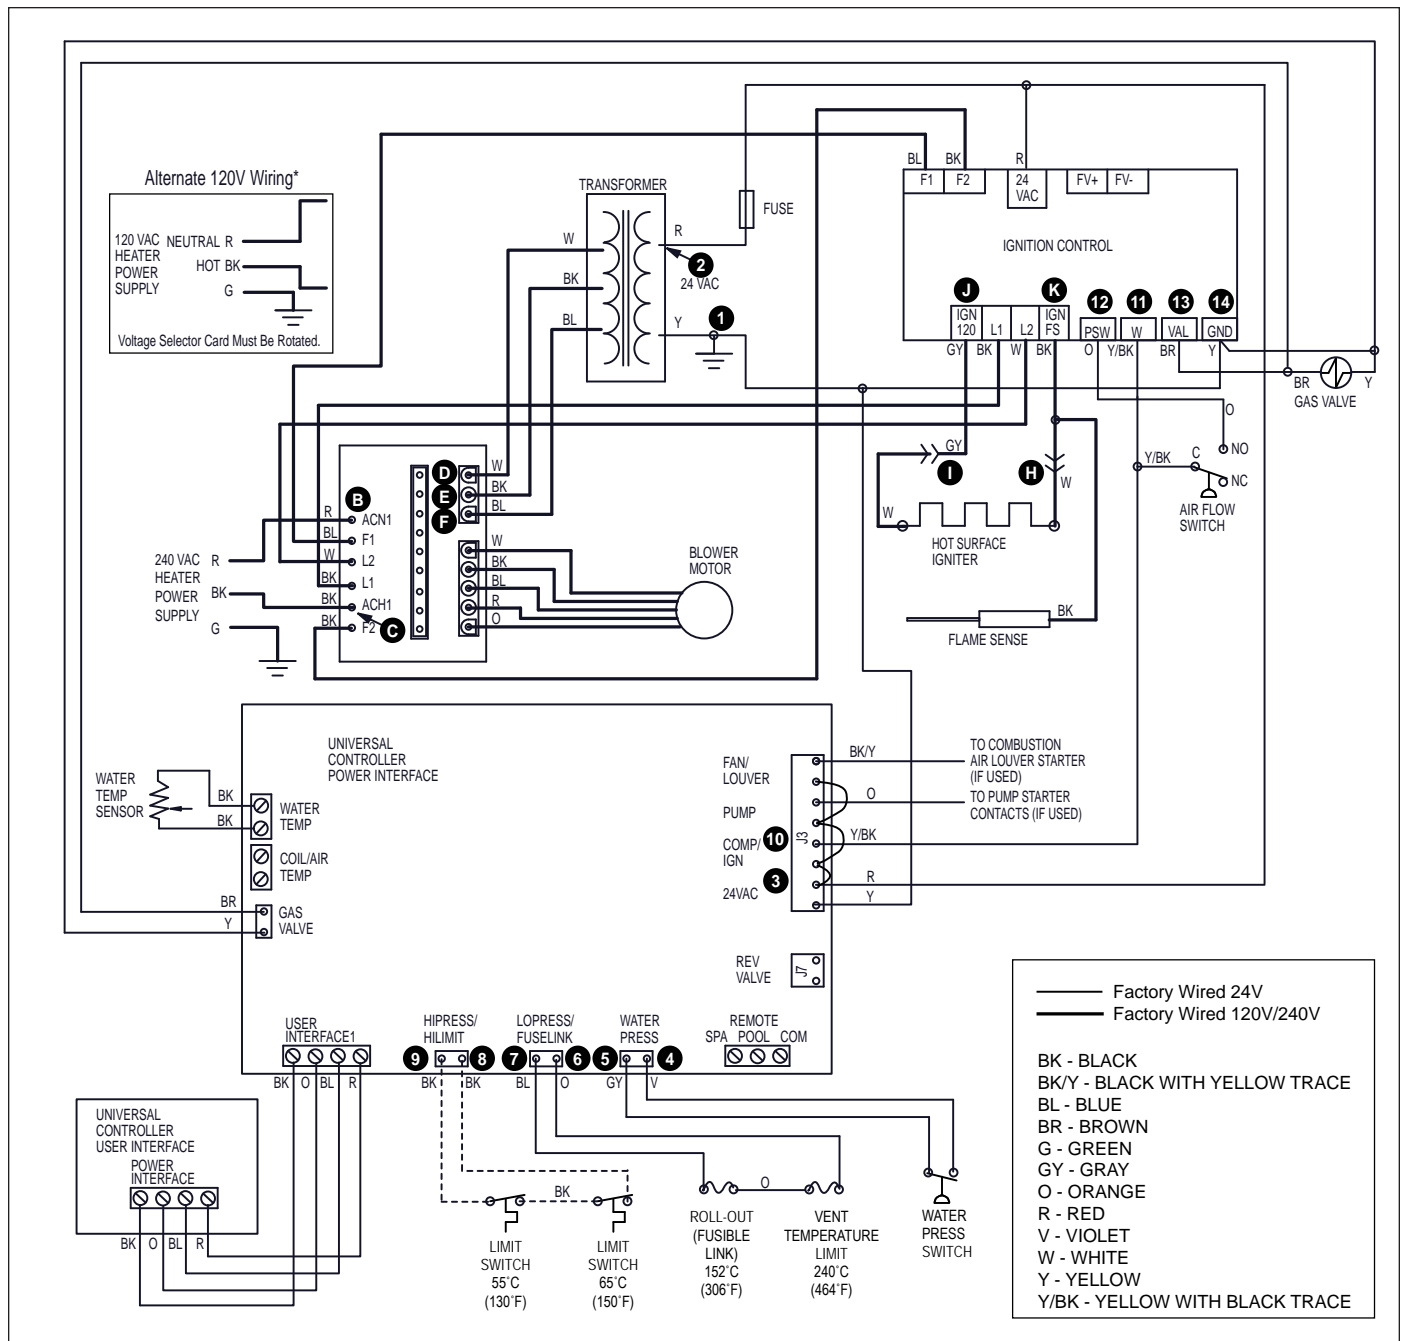

Figure 41. Test Point Identification Diagram
These procedures require a Volt-Ohm meter with a minimum 0-250VAC voltage range, and 1-1000 Ohm resistance range. Figure 41 shows the power and control circuits and where to take measurements. Location numbers in circles have been added, and will be referenced in the following sections.
The electrical components of the LXI pool heaters are designed to operate with supply voltage ranging from 102V to 132V at 60 Hz if connected to a nominal 120 Volt power supply, or 204V to 264V at 60 Hz if connected to a nominal 240 Volt power supply. Measure supply voltage at the power supply leads where they enter the heater (identified as points A, B and C on the wiring diagram in Figure 41). Use the voltages in Table 13 to verify that the correct voltage is supplied to the heater.
This can be done by measuring the voltage between the wires of the three-pin connector on the power supply circuit board. These points are designated as test points D, E, and F on Figure 41. The voltages measured between any two (2) of these three (3) points will be determined by the voltage supplied to the transformer. See Table 14 for expected voltages.
Troubleshooting is done by probing for voltage between the common and various points in the circuit to determine which component is preventing operation. Check points are indicated on Figure 41. The black lead of the meter should be attached to the common tap on the secondary side of the transformer and may be left there throughout most of the procedure.
Figure 41. Touch the free lead of the voltmeter to the terminal on the secondary side of the transformer with a red wire attached to it (24V tap), test point 2. The voltmeter should read between 20-28 Volts AC.
Start by checking the voltage at the two (2) legs of this circuit on the controller, see test points 4 and 5 in Figure 41. Check the voltage at test point 4, where the violet wire from the pressure switch enters the two-pin connector on the controller.
To check the fusible link/air louver/field interlock circuit, place the red lead at test point 6, see Figure 41. If 20-28 Volts AC nominal is not measured at this point, either the controller or the two-pin wire harness is faulty, or the water pressure switch is open.
Since the limit switches are not easily accessible, the voltage can be checked at the two (2) legs of the circuit at the controller. See test points 8 and 9 in Figure 41.